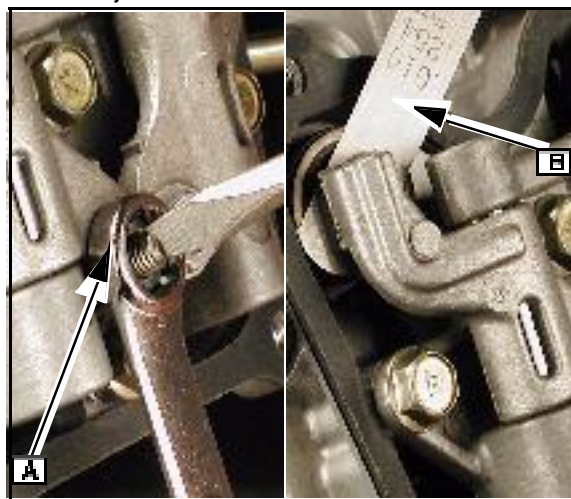

Fig. 35
3. Loosen the jamb nut ([A] Fig. 35) on the rocker arm.
4. Insert the proper blade of feeler gauge ([B] Fig. 35).